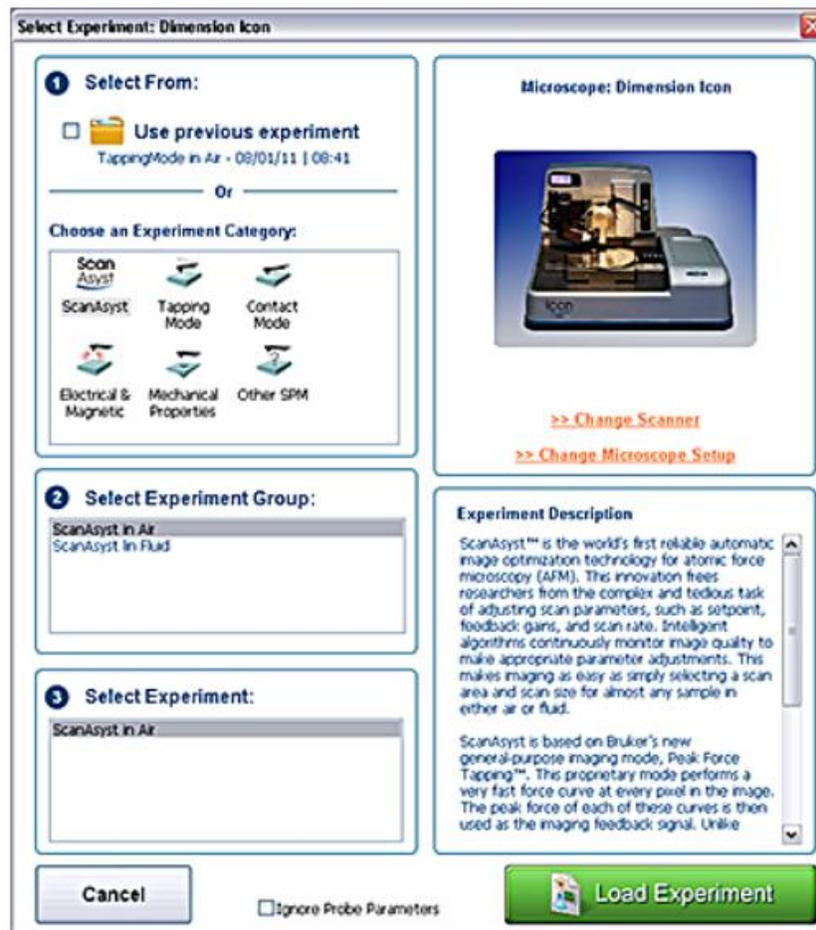

Figure 5. Select Experiment Dialog
11. In the Select Experiment window, choose an experiment category, experiment group, and experiment by clicking the icon for one of the Imaging Modes, as shown in Figure 5. (The default modes are ScanAsyst, ScanAsyst in Air, and ScanAsyst in Air for experiment category, experiment group, and experiment, respectively.)